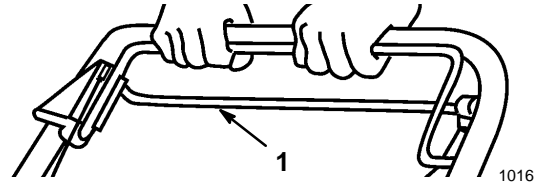

**Figure 11**
1. To operate the self-propel drive, squeeze the self-propel bail against the handle and hold it (Fig. 11).